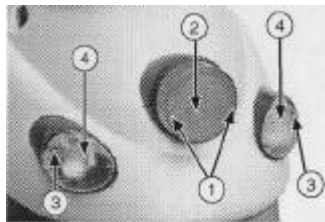

Fig. 27
### **C) REAR LIGHT AND REAR INDICATORS (FIG. 27)**
1. Remove the screws (1 -FIG. 27) for the rear light or the screws (3 -FIG. 27) for the rear indicators.
2. Remove the glass shields (2-4 -FIG. 27).